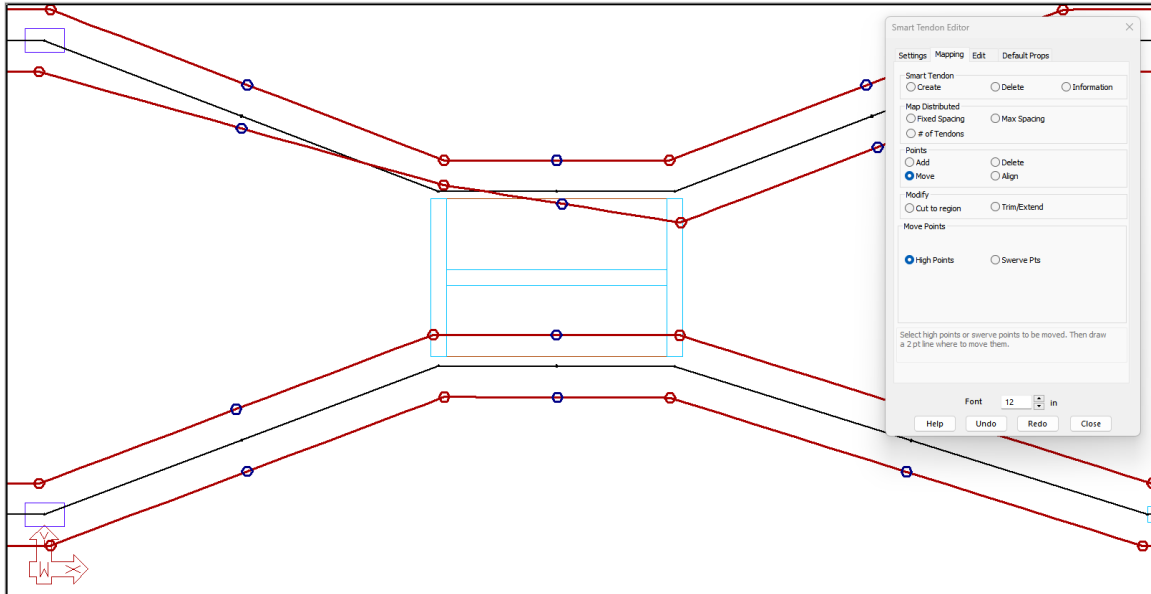

FIGURE 9-54
- The model should now look as shown in **FIGURE 9-54**.